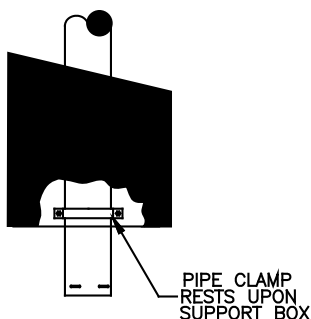

Figure 33
8. Place the Support Clamp, included with Support Box, loosely around Pipe Sections running through hole in Support Box (**Figure 33**).
10. After all PelletVent Pro Pipe Sections and components are assembled and connected down to the appliance seal and secure the Appliance Adapter to stove. Using a level, make slight adjustments in the position of the appliance until the pipe is truly vertical. Tighten the bolts in the Support Clamp (**Figure 33**). Note that the overall length of the PelletVent Pro system can be no longer than 42 feet.